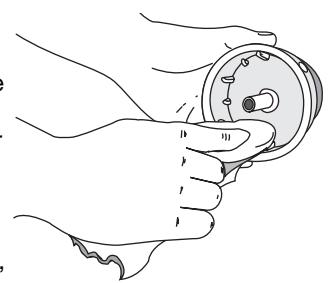

Fig. 14
4. Use a clean cloth to clean the inner reel, spring, shaft and inner surface of the outer spool (Fig. 14).